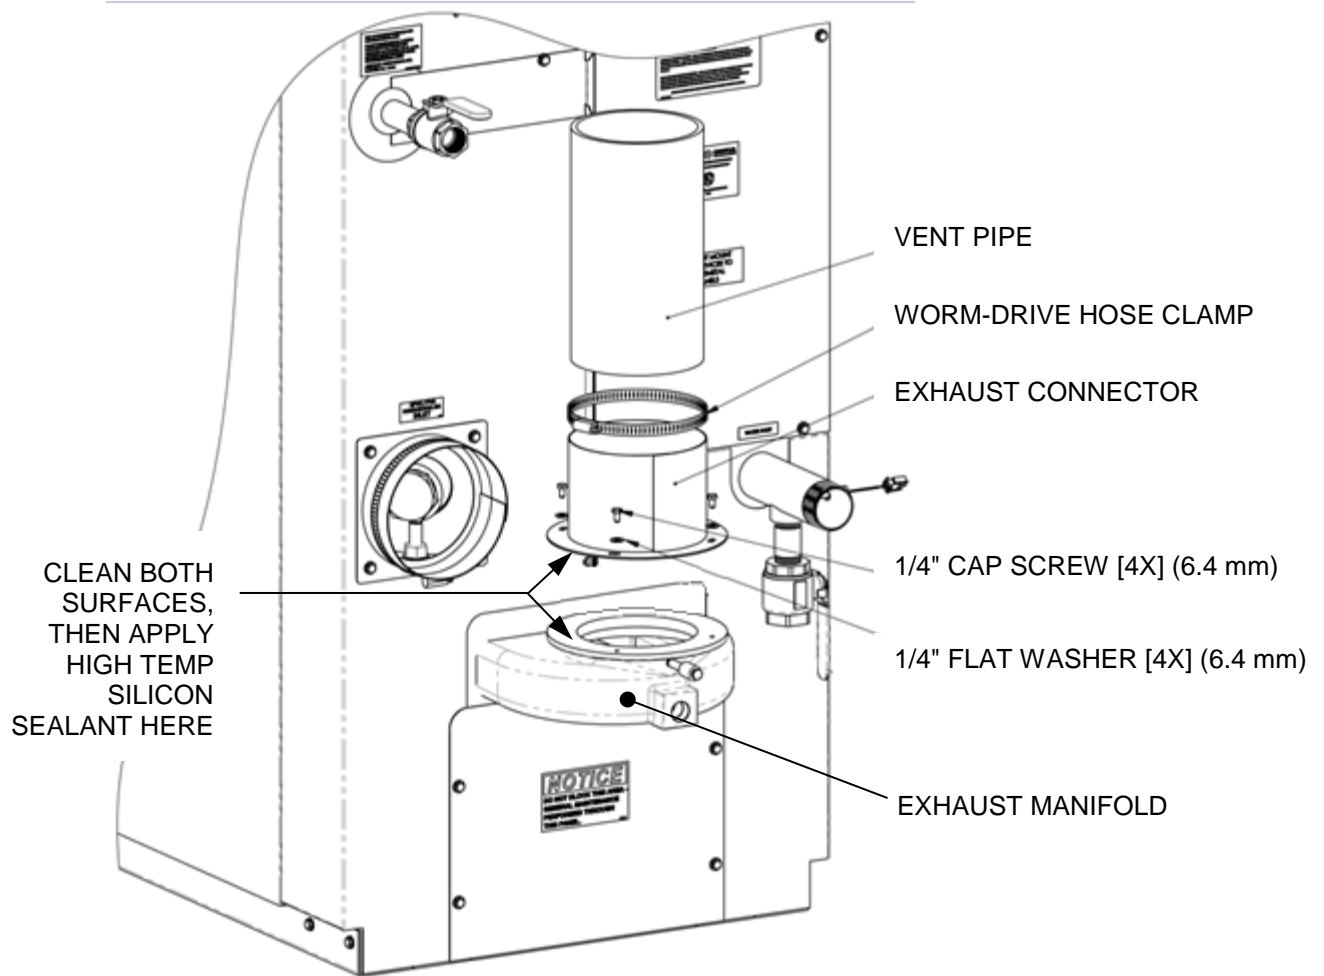

Figure 8: Vent Installation onto Water Heater – Innovation Shown
Figure 8 shows how the vent system is assembled to Innovation water heaters; installation on ReCon water heaters is comparable.
2. Install vent pipe beginning at the water heater exhaust manifold and work toward the vent cap. Start by cleaning the top surface of the exhaust manifold and the mating flange section of the duct starter piece with an alcohol swab and then apply a bead of high temperature red silicon sealant (such as Permatex Hi-Temp Red RTV or Loctite Superflex Red High Temp RTV) to that surface (see Figure 8, below).